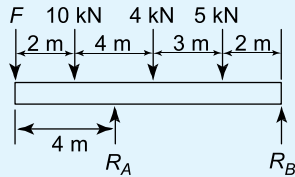

Figure 6.21
8. A uniform girder carrying point loads is shown in Figure 6.21. Determine the value of load F which causes the beam to just lift off the support B .